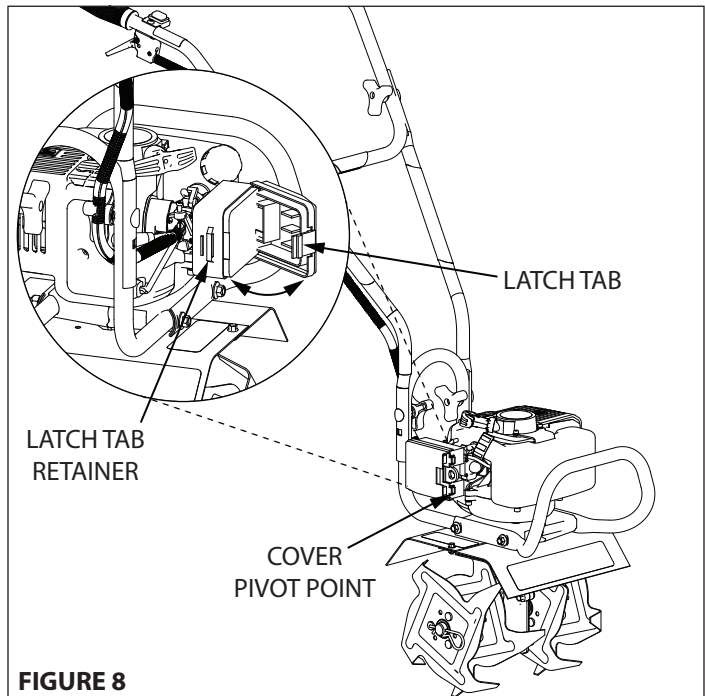

FIGURE 8
2. To remove air filter cover, squeeze the latch tab and rotate about cover pivot point to remove from air filter base. **SEE FIGURE 8**